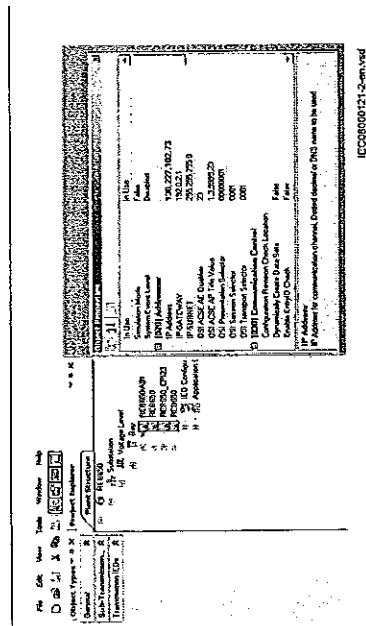

Figure 31: Alternative 2: IP address via IED Object Properties window
- Via the IP address property of the IED in the *Object Properties* window, see Figure 31.